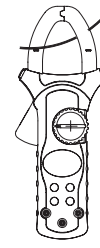

Figure 3
**A. Measuring AC Current (See Figure 3)**